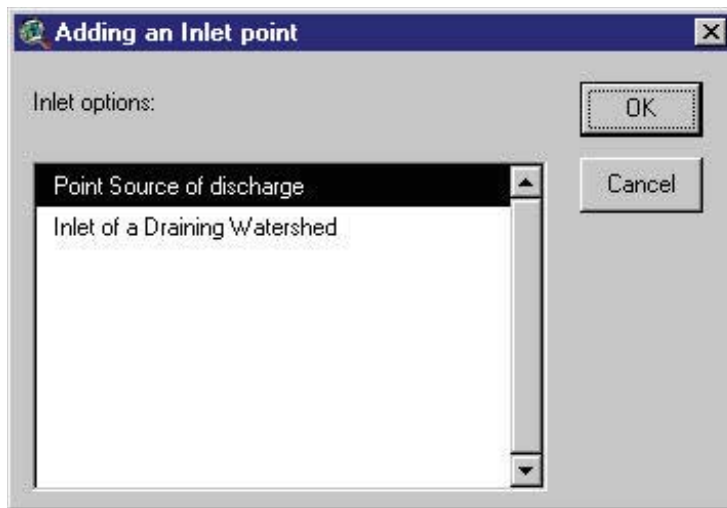

Figure 5.37
3. The Watershed Delineation dialog will be minimized. Move the cursor to the desired location(s) and click the left mouse button. A dialog box will open (Figure 5.37) providing two options: *Point discharge* and *Inlet of Draining Watershed*.